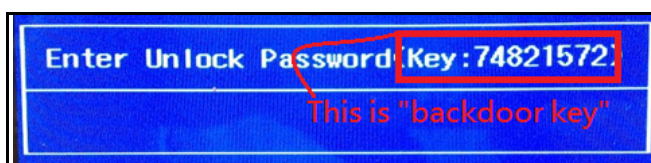

Figure 2-37. Backdoor Key
1. On the system with the locked supervisor password (refer to Figure 2-37), enter the generated backdoor password (example here is 61789574).